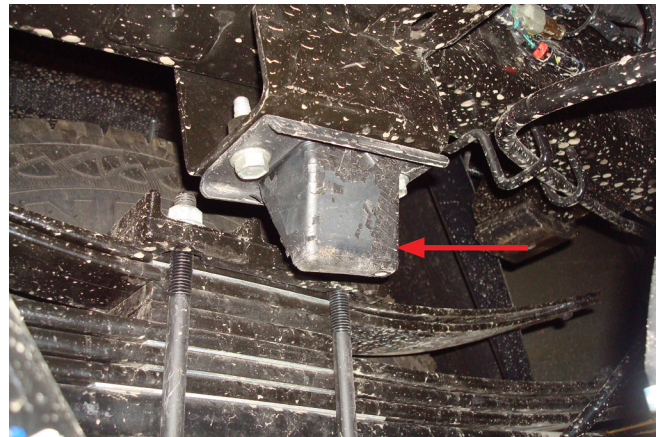

Fig. 3
2. Unbolt and remove both jounce bumpers (Fig. 3). Jounce bumpers and hardware will not be reused.